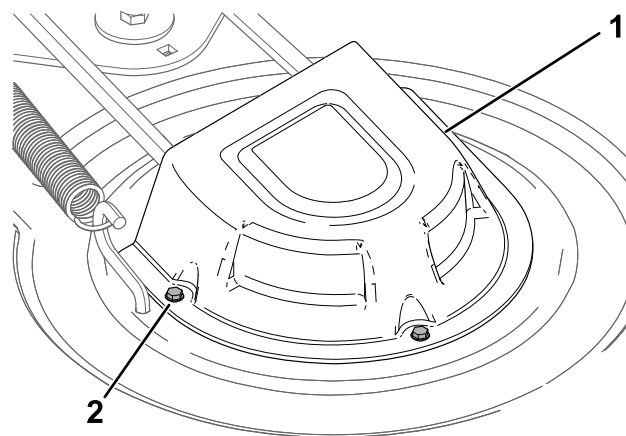

Figure 55
4. Loosen the screws and remove the pulley covers (Figure 55).